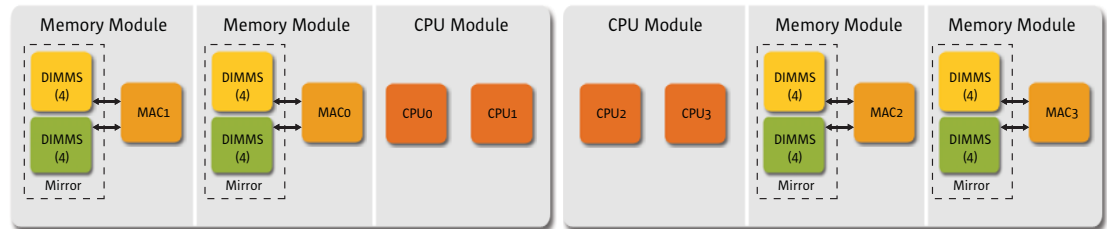
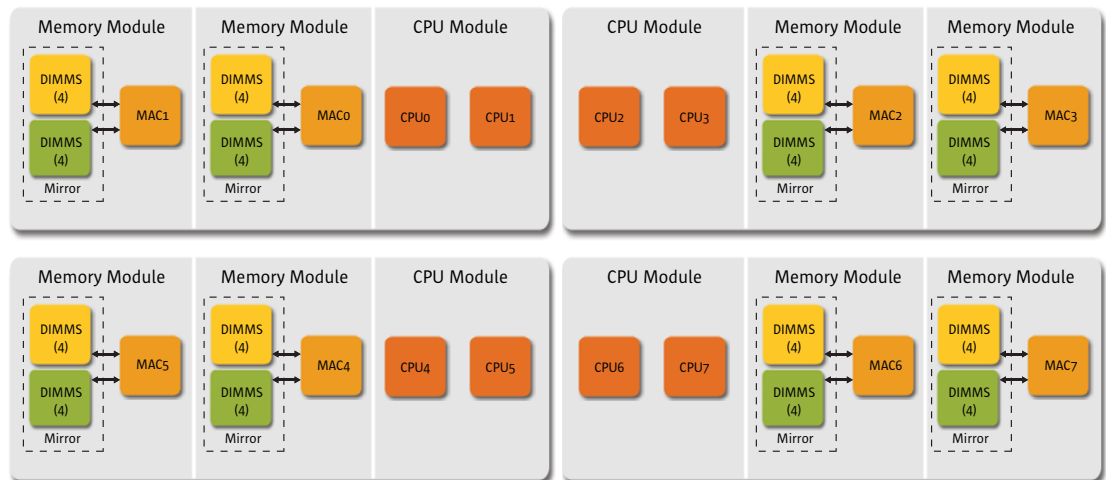

Figure 2-1. Sun SPARC Enterprise M4000 server memory mirroring architecture.
Figure 2-2. Sun SPARC Enterprise M5000 server memory mirroring architecture.
- **Memory mirroring** — Memory mirroring is an optional, high-availability feature appropriate for execution of applications with the most stringent availability requirements. When memory mirroring mode is enabled on Sun SPARC Enterprise servers, the memory subsystem duplicates the data on write and compares the data on read to each side of the memory mirror. In the event that errors occur at the bus or DIMM level, normal data processing continues through the other memory bus and alternate DIMM set. In Sun SPARC Enterprise M4000 and Sun SPARC Enterprise M5000 servers, memory is mirrored within the same memory module, using the common memory address controller (MAC) Application Specific Integrated Circuit (ASIC) (Figure 2-1 and Figure 2-2).